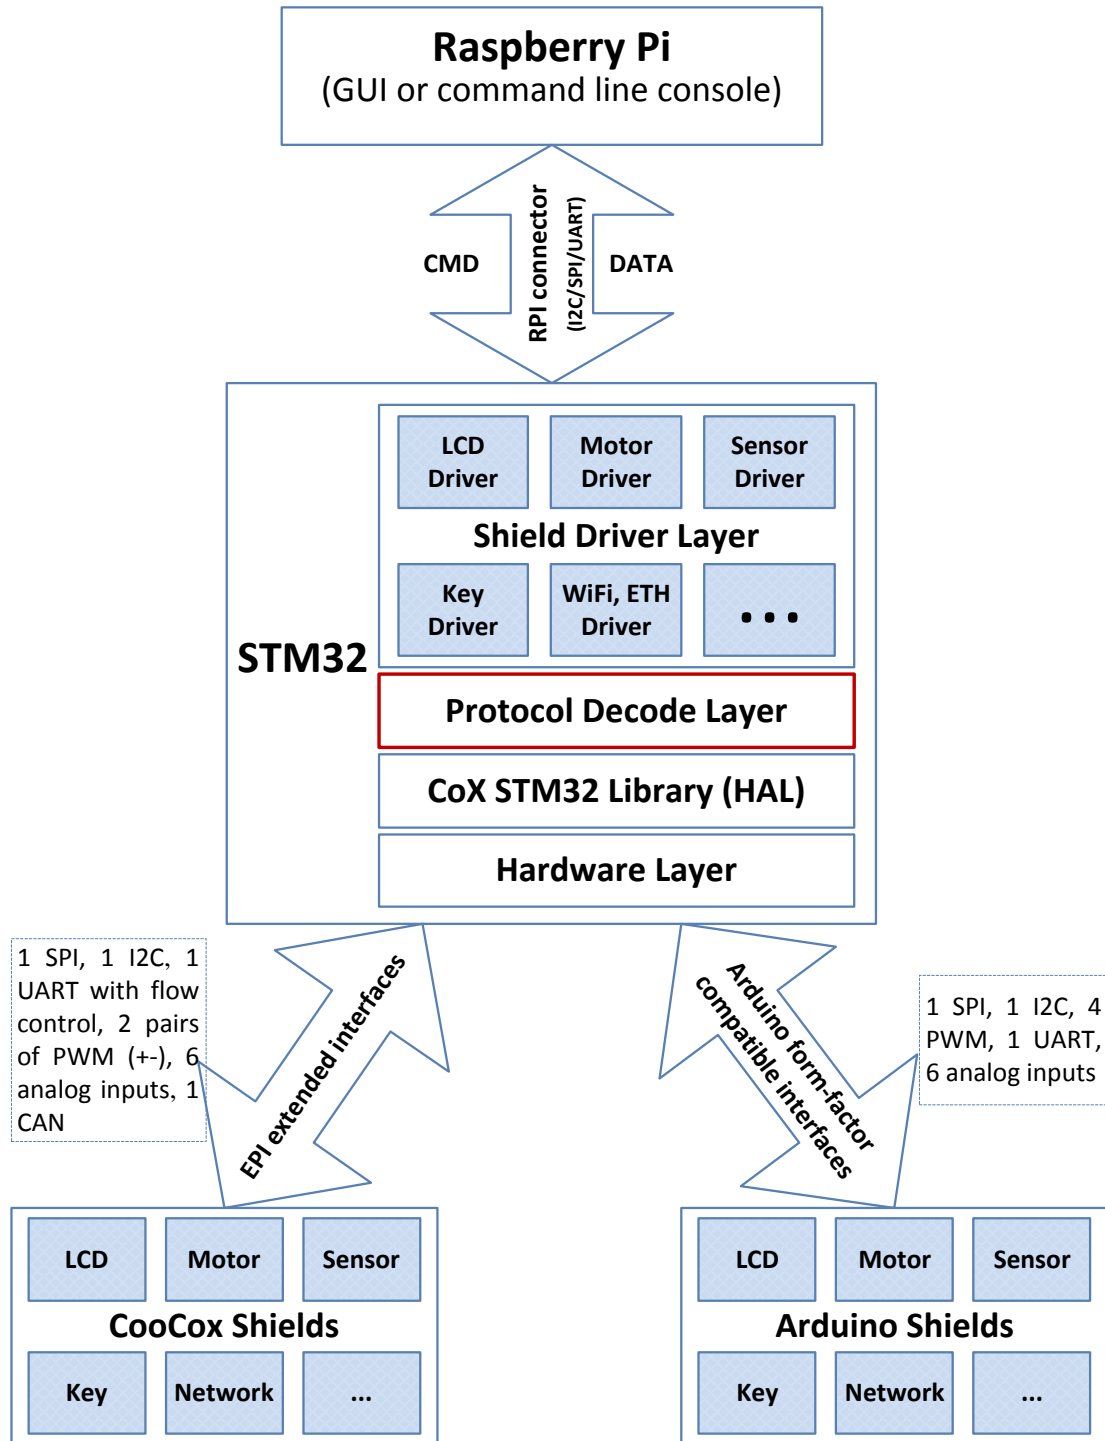

Figure 4-4 Block diagram of ST-Adapter Mode
**Preparation:** A firmware to control the Arduino™ shields and communicate with the Raspberry Pi should be programmed to the STM32 before hand; it can be generated from the project built in CoIDE, and be programmed with CoIDE, CoFlash, or ISP tool. The source code to control the Arduino™ shields are the same with those in the STM32/Standalone Mode, while the Protocol Decode Layer code components (as shown in Figure 4-4) for communication with the Raspberry Pi will be provided in CoIDE and this page.